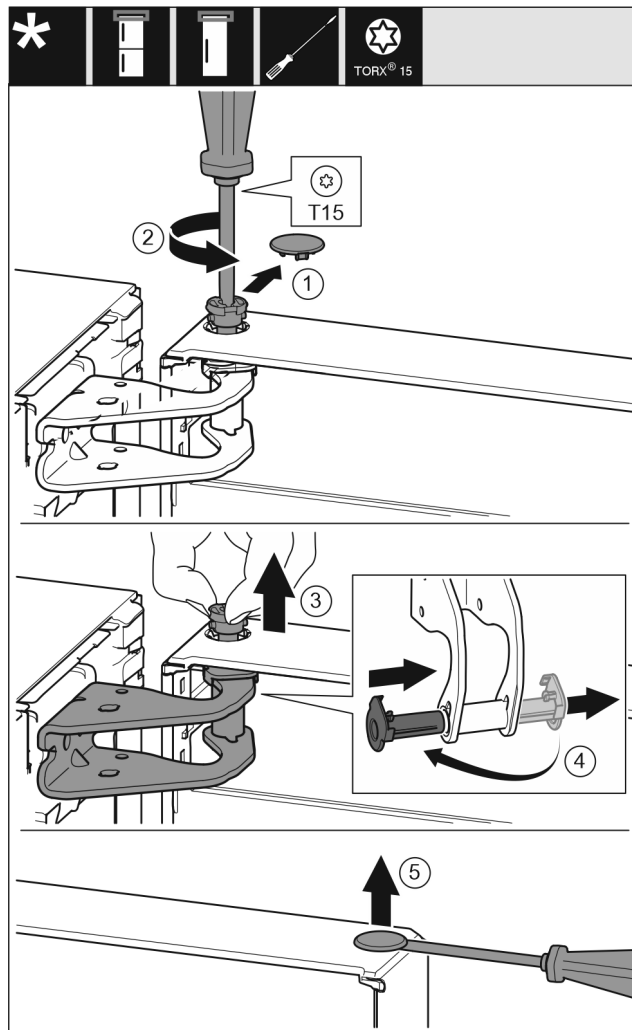

Fig. 10
- ▶ Carefully remove the protective cover. Fig. 10 (1)
- ▶ Undo the bolt a little with a T15 screwdriver. Fig. 10 (2)
- ▶ Hold the door and remove the bolts with your fingers. Fig. 10 (3)
- ▶ Pull the bearing bush out of the guide. Insert from the other side and latch into place. Fig. 10 (4)
- ▶ Carefully lift the plugs out of the door bearing bush with a slotted screwdriver and pull them out. Fig. 10 (5)